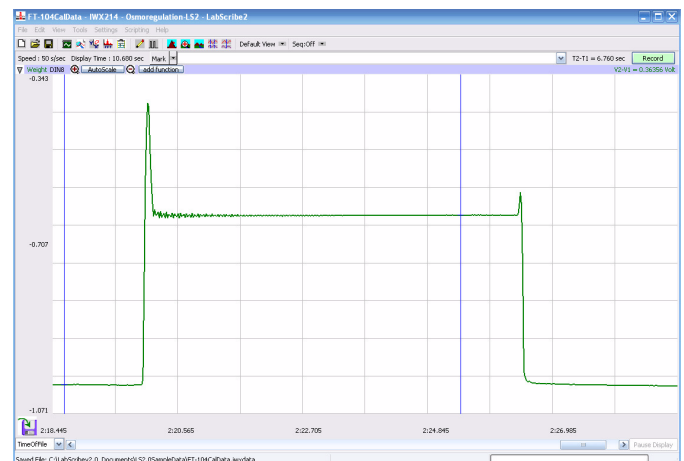

Figure FB-1-4: Recording of different known weights used to calibrate FT-104 force transducer.
- 4 Type the weight of the pennies in the **Mark** box. Place the pennies on the weight pan and press the **Enter** key on the key board, simultaneously. Click the **AutoScale** button next to the channel title area. Record for ten more seconds (Figure FB-1-4 on page FB-1-2).